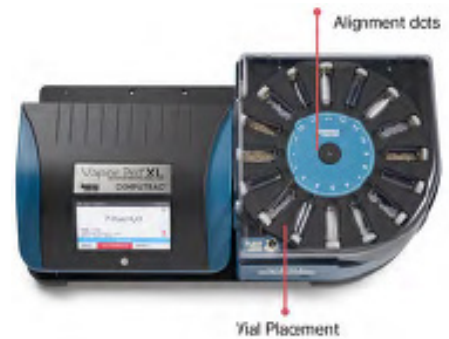

Figure 4
- Place the carousel on the Autosampler, ensuring that the dots on the carousel and spindle are aligned and the pin in the spindle is lined up with the alignment hole under the carousel (fig. 4).